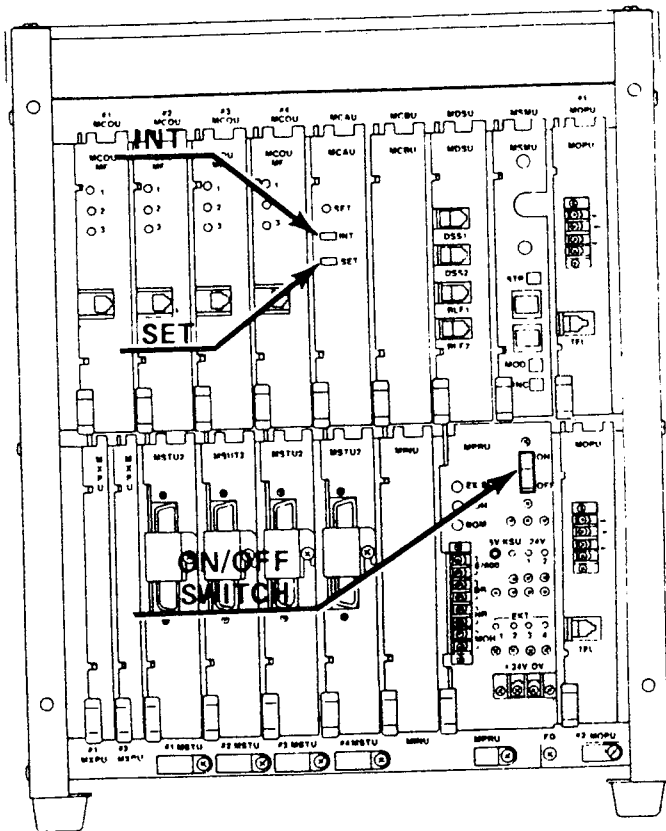

FIGURE 38—SYSTEM INITIALIZING
10.03 To initialize the system data memory, refer to Figures 38 and 39 and perform the following steps: